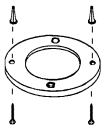
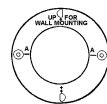

FIGURE 1
FIGURE 2
3. After selecting the proper smoke alarm location as described in Section 1, attach the mounting plate to the ceiling as shown in Figure 1. For wall mounting see Figure 2. Place mounting plate on the wall. Be sure the "UP FOR WALL MOUNTING" text and arrow are facing up. Use the screws and anchors provided to secure the mounting plate.
To replace the battery, remove the alarm from the mounting plate by rotating the alarm in the direction of the "OFF" arrow on the cover (see Section 3, Figure 1).